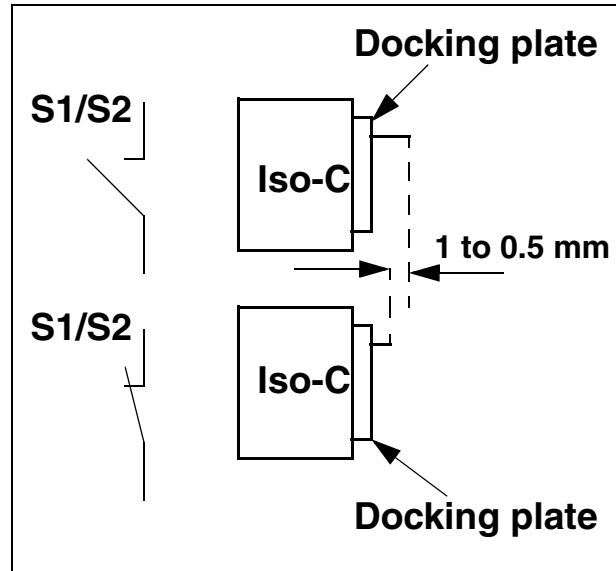

Fig. 31
- Adjustment of activating lever (Fig. 31).